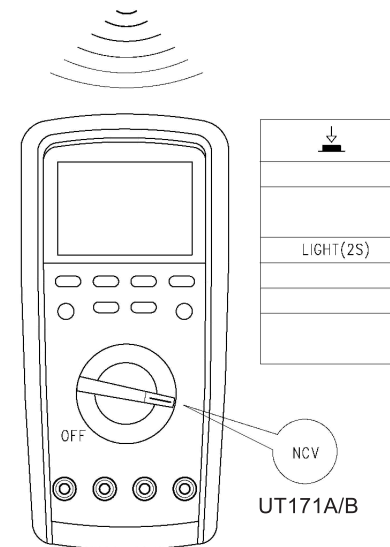

Figure 12
10. Non-contact AC voltage sensing (see Figure 12)